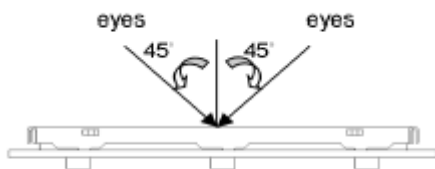

Fig.1
(3). The test direction is base on about around 45°of vertical line. (Fig. 1)